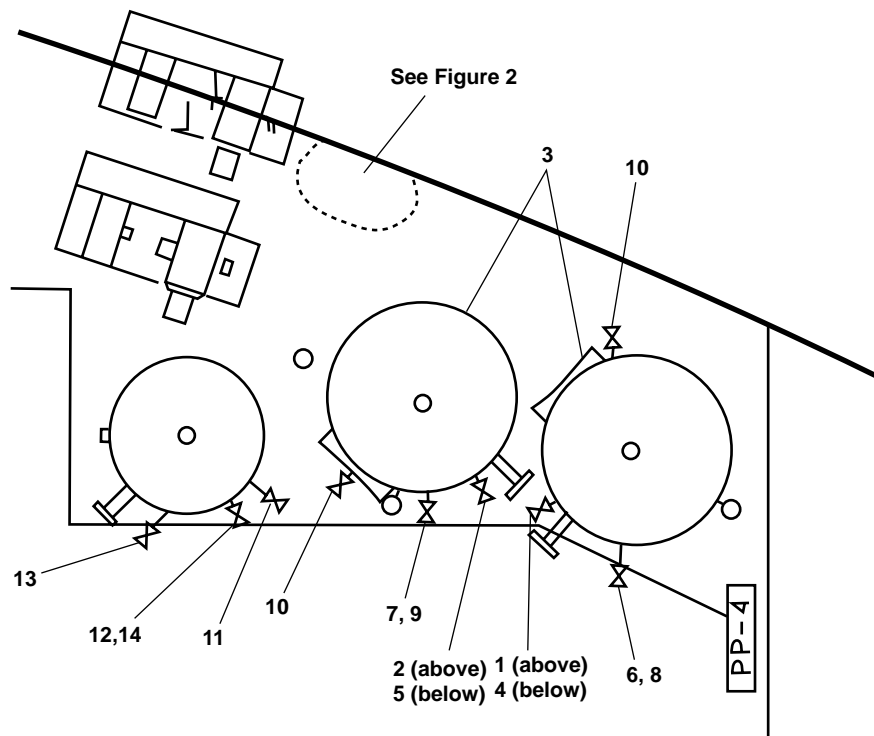

Figure 1. Compressed Air System Component Locations
1. OPEN valves CA-4 STG AIR TK OUT (figure 1, item 1) and CA-3 STG AIR TK OUT (figure 1, item 2) at the starting air receivers (figure 1, item 3).
4. OPEN valves CA-11 STG AIR TK INL (figure 1, item 4) and CA-12 STG AIR TK INL (figure 1, item 5).
5. OPEN valves CA-50 AUTO DR (figure 1, item 6) and CA-49 AUTO DR (figure 1, item 7).
6. Check that CA-46 and CA-47 STG AIR TK DR valves (figure 1, items 8 and 9) are CLOSED.
7. Check that CA-98 and CA-99 valves (figure 1, item 10) are OPEN.
3. OPEN valves CA-13 SVCE AIR TK INL (figure 1, item 11), CA-51 AUTO DR (figure 1, item 12), and CA-14 SVCE AIR TK OUT (figure 1, item 13).